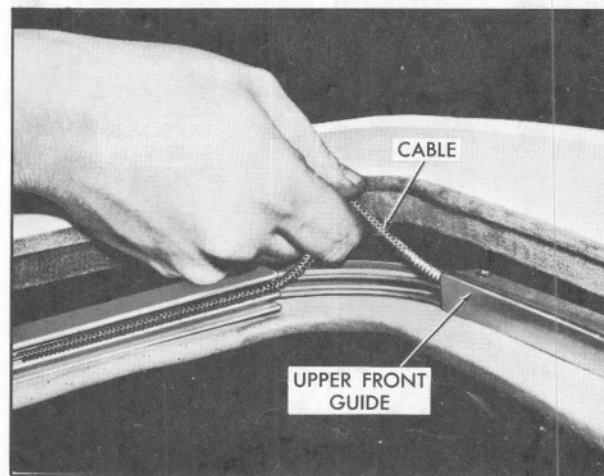

Fig. 15-37 Installing Cable Into Upper Front Guide
2. Slide free end of cable into upper front guide, Fig. 15-37, and route cable through the curved front
6. Recheck rear slides for center position with fifth screw from front on side guide rails, Fig. 15-37. With slides in this position, engage cables in drive pinion teeth.